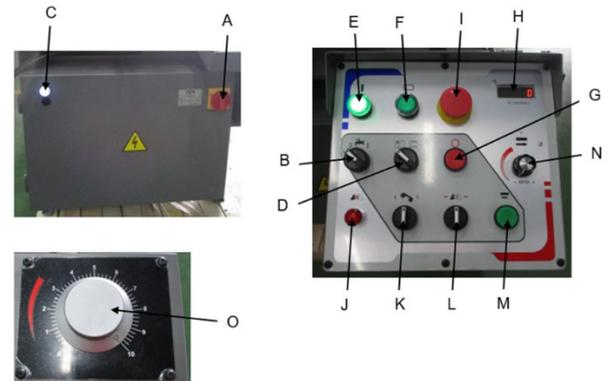

Figure 7-1: Machine Controls
- If the blade gets stuck in the cut, press the emergency stop button (I, Fig 7-1) immediately to switch off the machine.
Rotate knob (N, Fig 7-1) to set the blade speed.
Connect the machine to power source. Turn the main switch (A, Fig 7-1) on. The power lamp (C) will be lit.
1. Press button (D) to start the hydraulic pump.
If vise clamping fails, the lamp (J, Fig 7-1) is lit.
- Press button (E) to start the hydraulic pump.